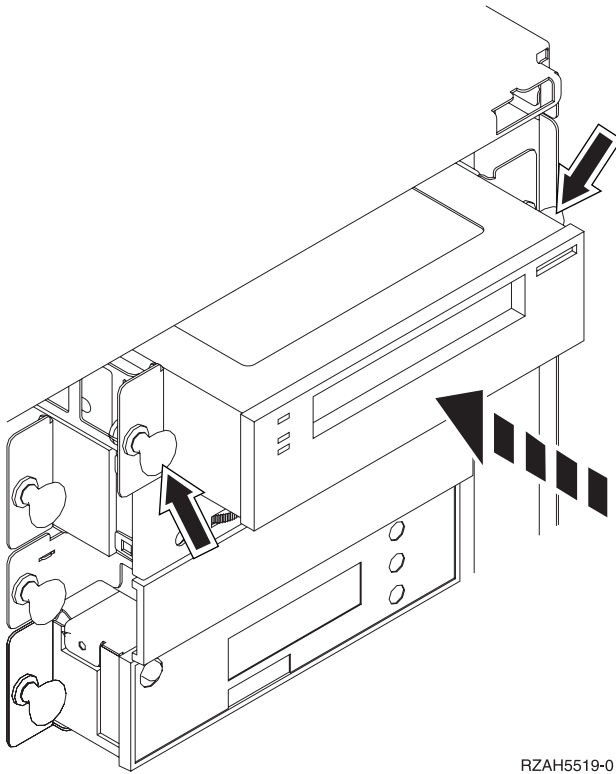

Figure 4. Installing the removable media device
- 4. Align the device and slide it into the front of the system unit (Figure 4 on page 9) until the device is flush against the frame of your system unit.